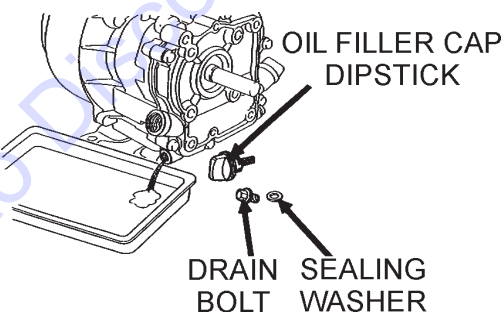

Figure 29. Engine Oil (Draining)
1. Drain the engine oil when the oil is **warm** as shown in Figure 29.